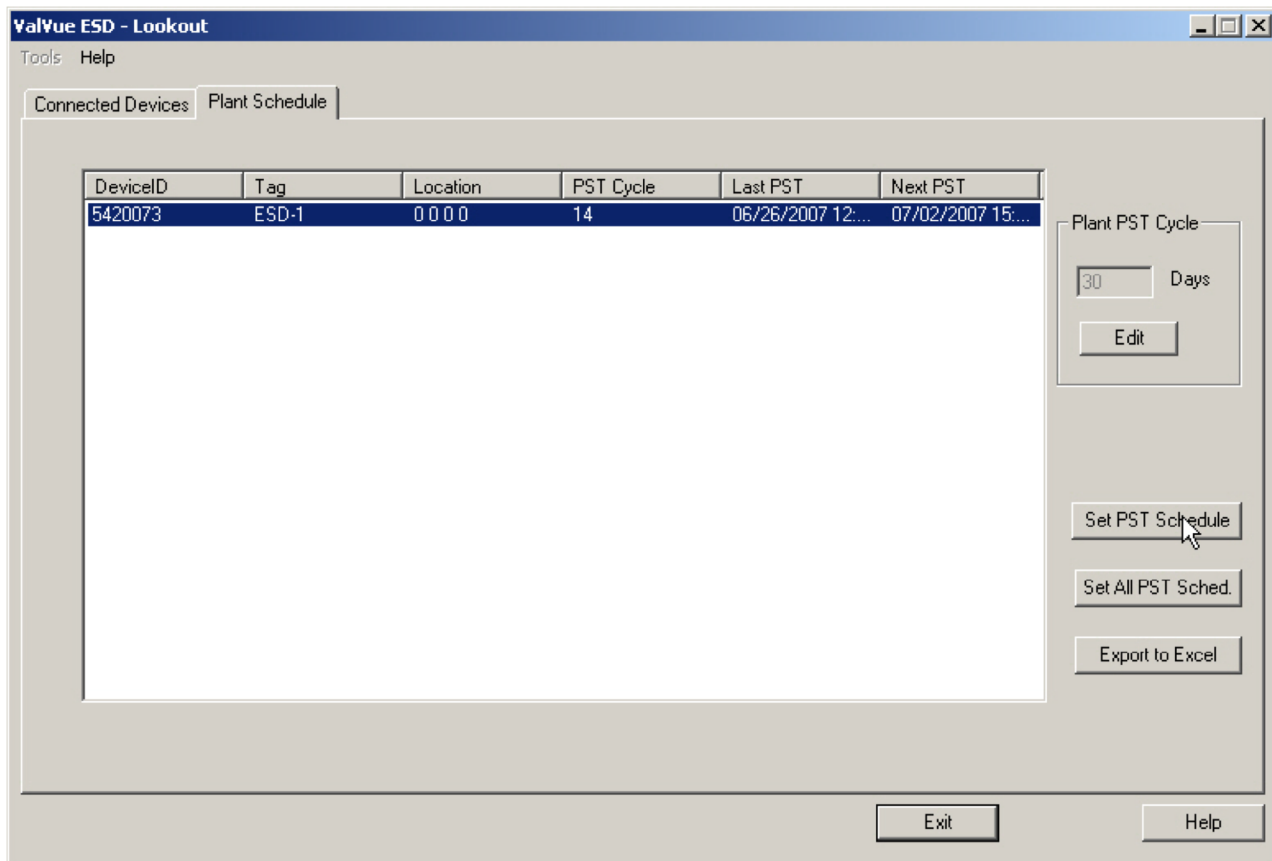

Figure 43 - Setting PST Schedule for Individual Device
4. Click **Set PST Schedule** (Figure 43).